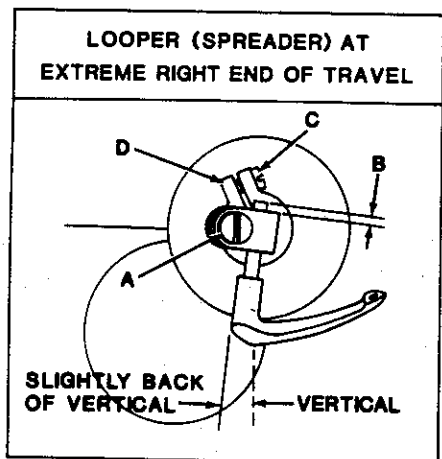
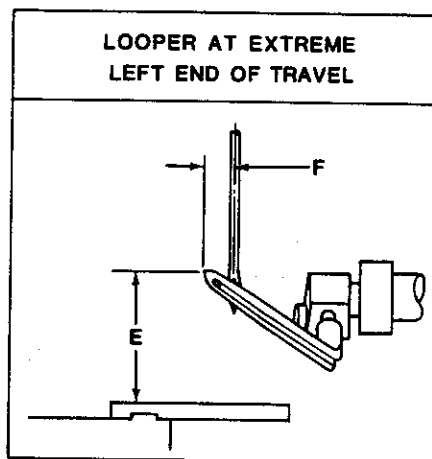
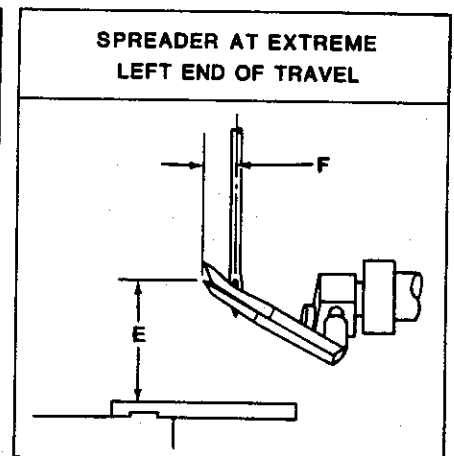

Fig. 12
Fig. 13
Fig. 14
Figures 12, 13, 14, and the chart following relate approximate dimensions for adjusting upper looper/spreader at their extreme right and left positions of travel.
| 39500 XQA, XQB, XQJ, XTA, CXQA, CXQB, CXQJ, XSQB, CXSQB | "B" Fig. 12 | "E" Fig. 13 - 14 | "F" Fig. 13 - 14 |
1. Position upper looper/spreader at the left end of travel, loosen clamp screw (A, Fig. 12) and set upper looper/spreader shank to dimension "B" above holder, then temporarily tighten screw (A).
2. With upper looper/spreader positioned at the right end of travel, loosen screw (C) and rotate holder (D) as required to set shank slightly back of vertical on all Styles except 39500 XQJ and CXQJ, as shown in Fig. 12, then temporarily tighten screw (C). Shank of spreader on Styles 39500 XQJ and CXQJ should be set vertical.
4. Continue to rotate handwheel in operating direction until upper looper/spreader is at extreme LEFT end of travel. Rotate upper looper/spreader holder as required to position POINT of upper looper to dimension "E", Fig. 13 or LOWER POINT of upper spreader to dimension "E", Fig. 14 from top of throat plate.
5. With upper looper/spreader still positioned at left end of travel, it may be necessary to move looper/spreader holder in or out of its shaft to set POINT of looper dimension "F", Fig. 13 or LOWER POINT of spreader dimension "F", Fig. 14, which is to the left of centerline of needle (or left needle). Tighten screw (C, Fig. 12), then screw (A) securely.